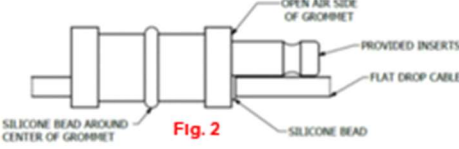

Fig. 2
7. For proper seal, pull a length of cable equal to half of the length of the grommet back out of the open-air side of the grommet. Apply a bead of silicone at the base of the cable near the grommet. Push the cable back through the grommet to its original position. (Fig. 2)
11. Before installing grommet into closure seal, apply a small bead of silicone around the middle of the grommet. Ensure the silicone bead is continuous. Install provided inserts into any empty ports of the grommet. (Fig 2)